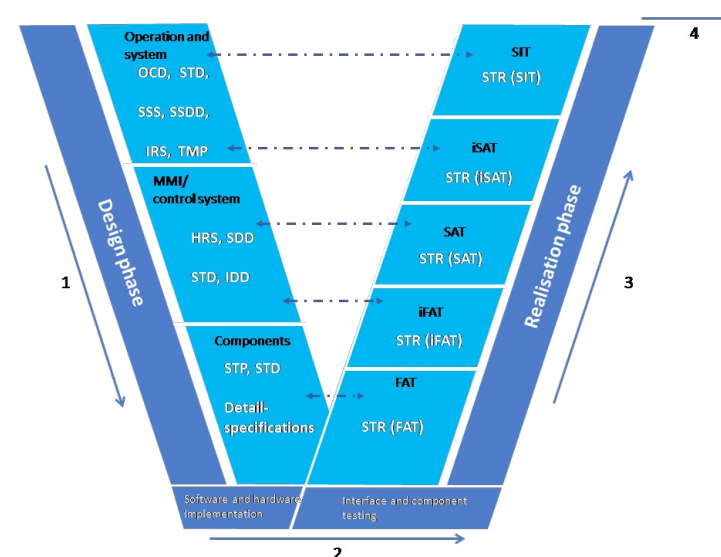

Figure 2. V-model
The V-model, shown in figure 2, is a part of the methodology of systems engineering (SE). In a project, the V-model starts in the upper left corner (1) and ends in the upper right corner (4). At the left hand side of the V-model, the design documents are made (e.g. SDD, OCD, IRS, according to J-STD-016). The programming of software and the assembling of hardware has to be carried out by (2). At the right hand side of the V-model the systems are realised and tested. By means of the dashed lines, validation takes place towards the client.